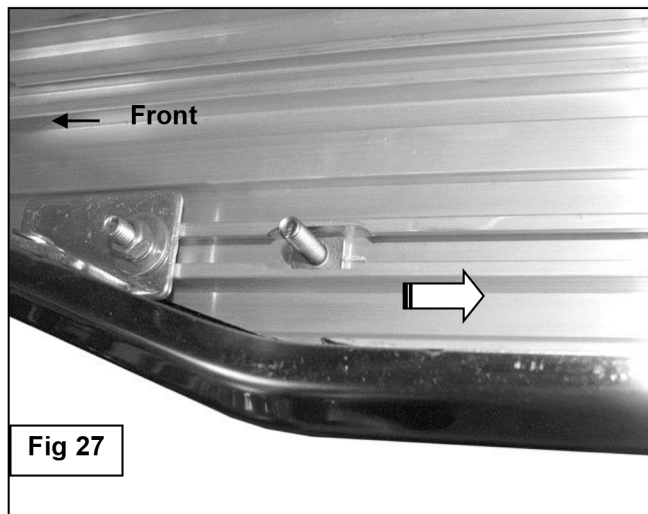

Fig 27
18. Carefully unwrap the Running Boards and select the passenger side Running Board. Insert (6) 6mm T-Bolts into the slots in the ends of the channels, (3 T-Bolts per slot), on the bottom of the Running Board, (**Figure 27**). Hold the Running Board up in the approximate position and slide the T-Bolts down the slots to line up with the Brackets. Tilt the Running Board up at a slight angle to clear the slots in the Brackets. Secure the Running Board to the Brackets with (6) 6mm Flat Washers, (6) 6mm Lock Washers and (6) 6mm Hex Nuts, (**Figure 28**). **NOTE:** The Running Board is designed to fit close to the vehicle. It may be necessary to loosen the Mounting Brackets and tilt the Brackets downward to insert the Running Board. Do not fully tighten hardware at this time.